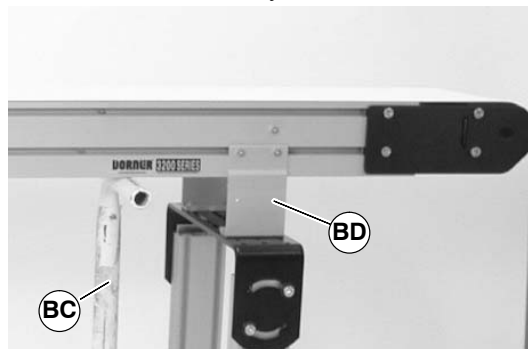

Figure 29
1. Place temporary support stands (BC of Figure 29) at both ends of the conveyor. See **WARNING**.
4. Remove first mounting brackets (BD of Figure 29) from one side of conveyor. (Reverse steps 3 & 4 of “Mounting Brackets” section on page 7).
1. Ensure temporary support stands (BC of Figure 29) are placed at both ends of the conveyor. See **WARNING**.